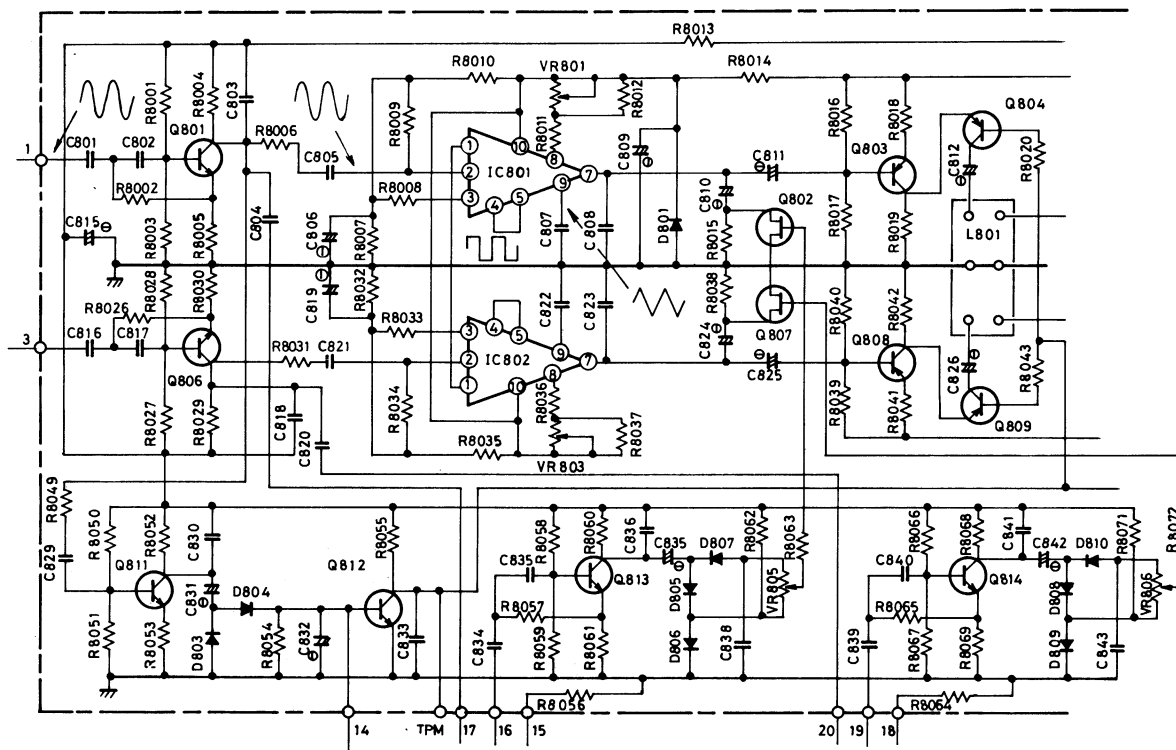

Figure 8. CD-4 DEMODULATOR CIRCUIT DIAGRAM
1. Demodulation Circuit Checking is made by checking waveforms in each section with the 30KHz signal applying to it. Figure 8 shows waveforms in each section